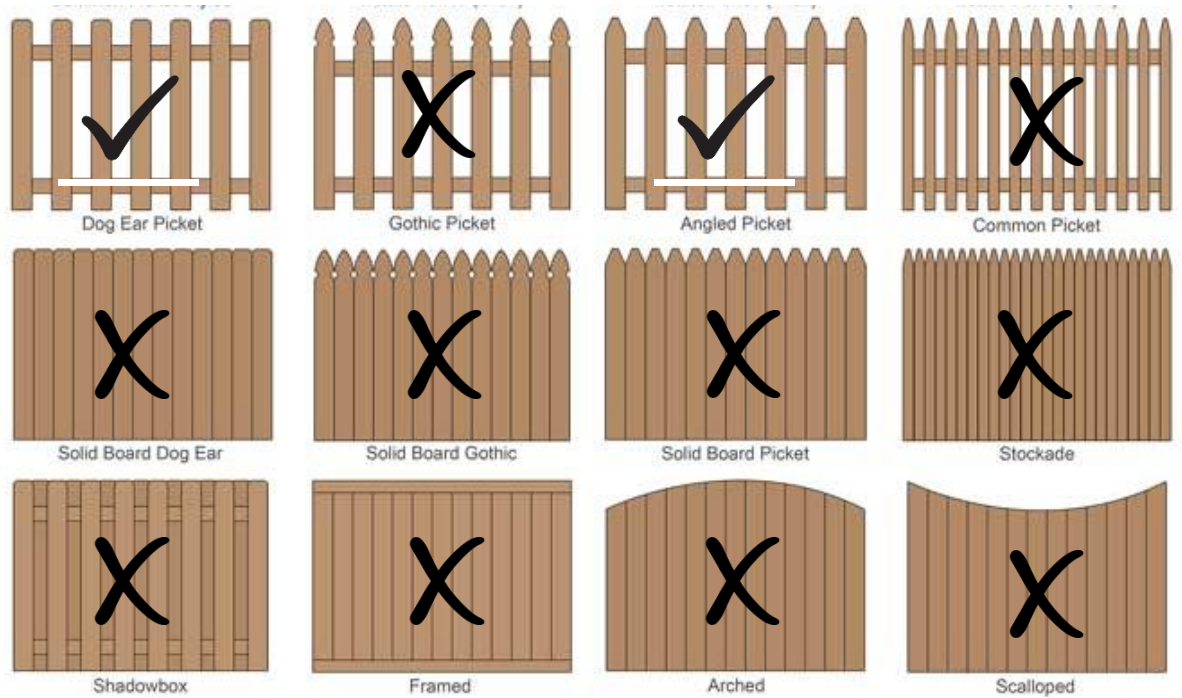

FIGURE 09: TYPICAL PICKET FENCE
- Although it is preferable not to have any boundary wall on an erf's street front, a masonry boundary wall on the erf's street border, not higher than 500 mm, is permitted if prior approval is obtained. Picket fencing is also permitted on prior approval. Always provided the wall complies with the specifications contained herein. (See Figure 09). Note: no wire fencing is allowed on any border of the property. However, all yards to be walled with max. height of 2.1m wall.